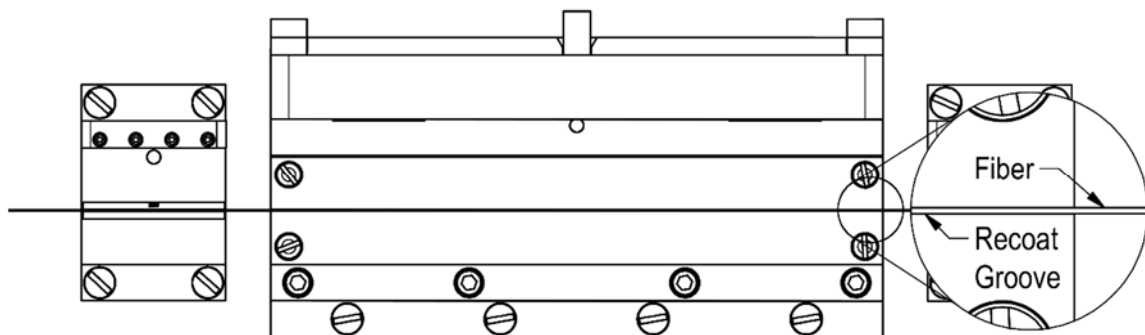

Figure 44 Align Recoat Mold (view is from above)
Lower the assembly straight down over the recoat lamps and replace the eight (8) flange screws. Lightly tighten two diagonal screws only to allow for adjustment of the recoat assembly. Open the recoat station top and the tops of the fiber holding blocks. Clamp a length of coated fiber between the holding blocks such that the fiber is under slight tension. (A fiber nominally smaller than that of the diameter of the recoat mold should be used). Using a 10X magnifying loupe, view the fiber straight down at the right-hand edge of the recoat station, as shown in the Figure 44. Adjust the recoat assembly such that the fiber is centered in the bottom recoat groove. Repeat this procedure while viewing the fiber at the left edge of the recoat station. Tighten the recoat flange screws and re-check the fiber alignment.